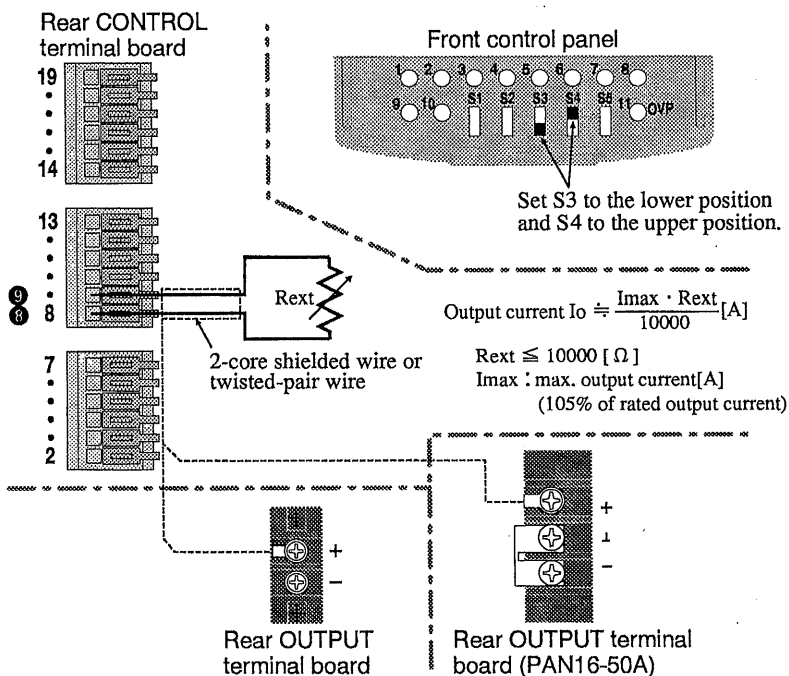

Fig. 3-8 Connection and setup for output current control using external resistor
- ① Turn off the OUTPUT switch.
- ② Turn off the POWER switch.
- ③ Set the control switches S3 and S4 to the position as shown in Fig. 3-8.
- ④ Connect an external resistor across the control terminals ⑧ and ⑨ as shown in Fig. 3-8.